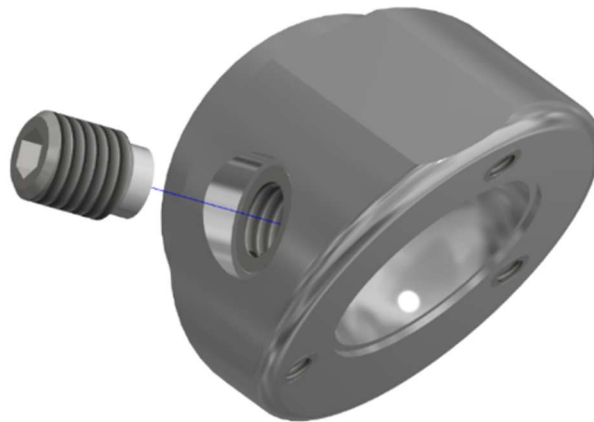

Figure 8-36. Mount a Pelvic Plunger Assembly (474-4305) on each top hole of the Left and Right Femur Mounting Socket
- 8.3.9 Mount a Pelvic Plunger Assembly (474-4305) on each top hole of the Left and Right Femur Mounting Socket (474-4003-1 and 474-4003-2) (Figure 8-36).